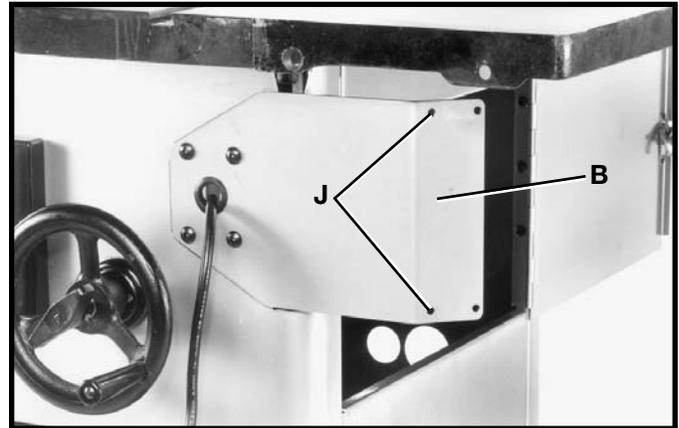

Fig. 12
3. Fig. 12, illustrates switch mounting bracket (B) properly mounted to shaper cabinet.
4. Assemble on/off switch (A) Fig. 9, to switch mounting bracket (B) Fig. 12, through two holes (J), using two Phillips head screws (K) Fig. 9, and Keps nuts (L).